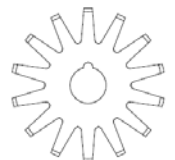

Fig. 6.2.1
- The "tenderising" system is made up of star-shaped blades (Fig. 6.2.1) that penetrate the meat and cut the nerves so as to make it more tender.